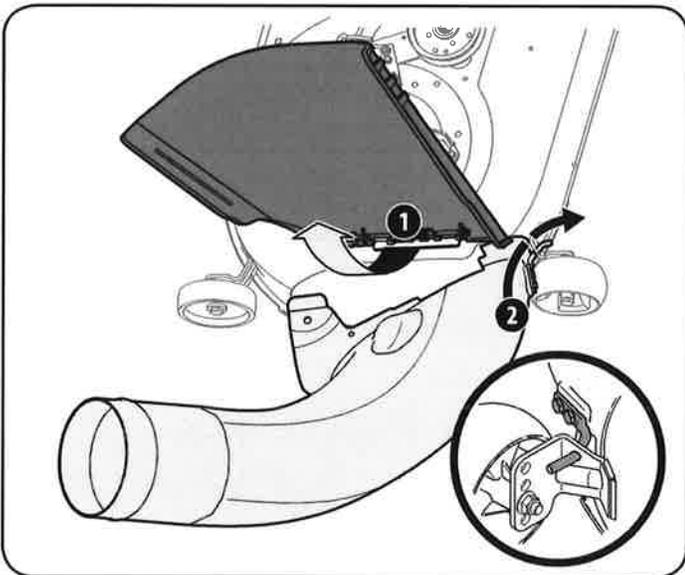

Figure 18
1. With the tractor's discharge chute raised up and held open (1), install the chute elbow by placing the chute elbow mounting rod into the hole provided in either your deck wheel bracket or chute mounting tab (2), as detailed in the inset of Figure 18.